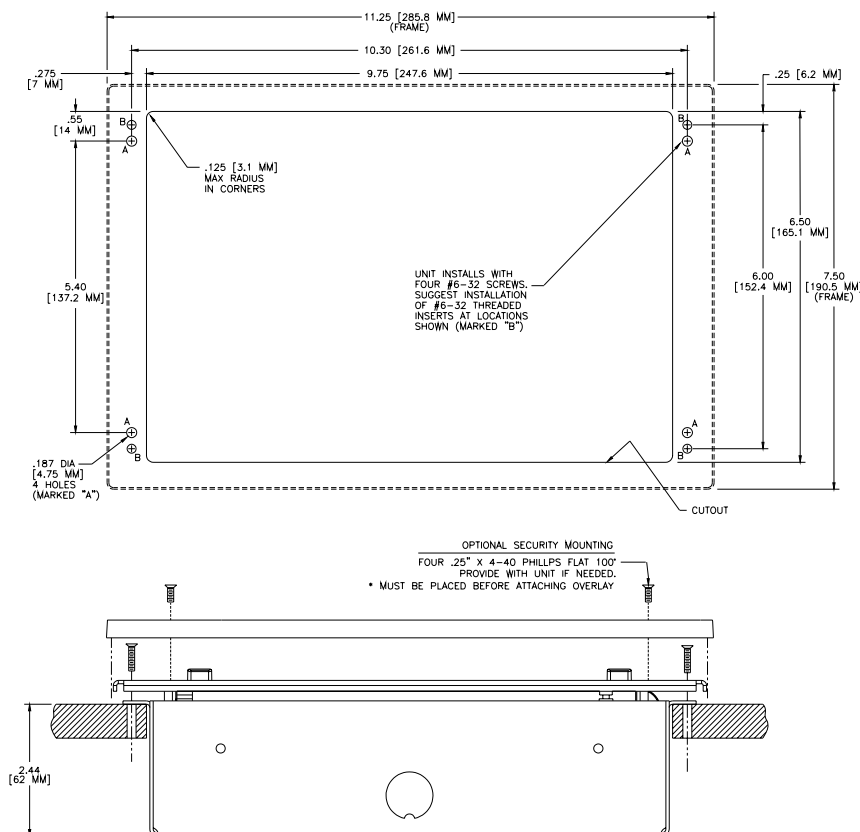

FIG. 3 Decor style (AXD) and BB-TP2 cutout dimensions
1. Cut out the surface using the dimensions shown in FIG. 3.
4. Place the BB-TP2 into the cutout and mark the threaded insert positions as shown in FIG. 3.
5. Remove the BB-TP2 and drill holes (A and B) for the panel (FIG. 3). Then, place #6-32 threaded inserts into the four holes marked 'B' in the cutout dimensions illustration.